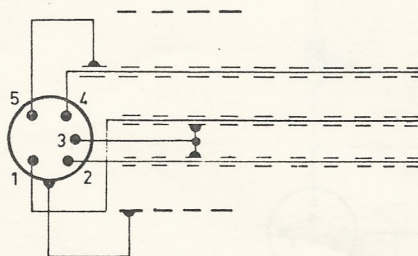
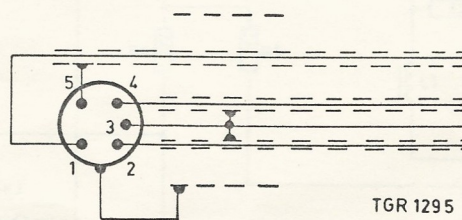

Fig. 2
Fig. 3
In this version plug item 44 has been provided with a blue mark. This plug is connected as shown in Fig. 2. In case of connection to a car radio it should be ensured that the connection plug of the radio also has a blue mark. If this is not the case points 1 and 4 of plug item 44 should be resoldered, see Fig. 3.
With this version plug item 44 has no blue mark. This plug is connected as shown in Fig. 3. In case of connection to a car radio, make sure that the connection plug of the radio has no blue mark either. If so, points 1 and 4 of plug item 44 should be resoldered, see Fig. 2.